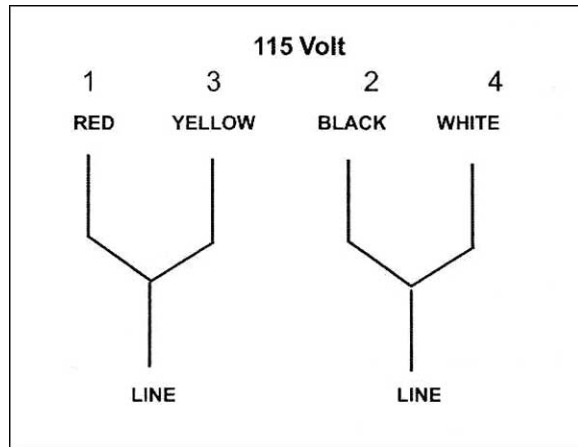
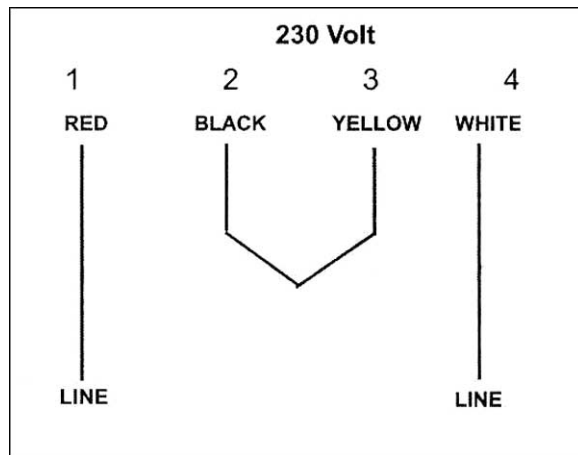

Figure 2
Figure 3
2. Open the motor junction box, and consult the diagrams affixed to the inside of the junction box cover. These diagrams are also shown in Figures 2 and 3. This saw is supplied with four motor leads that are connected for 115V operation (Figure 2). Reconnect these four motor leads for 230V operation (Figure 3).